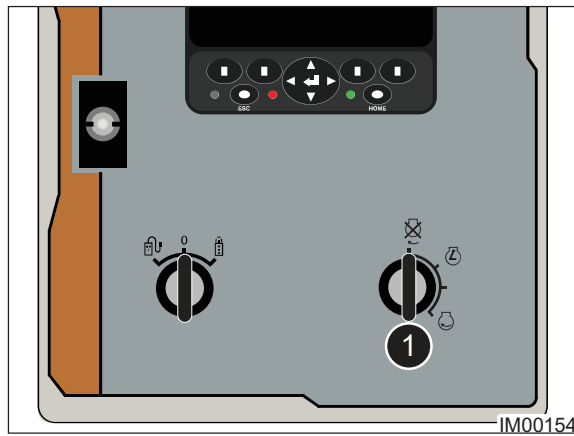

Fig: 9.2 - Ignition Key
4. Rotate the ignition key (Item 1, Fig: 9.2) Counter-Clockwise to switch off the engine. Remove the key from the ignition and store in a safe location.